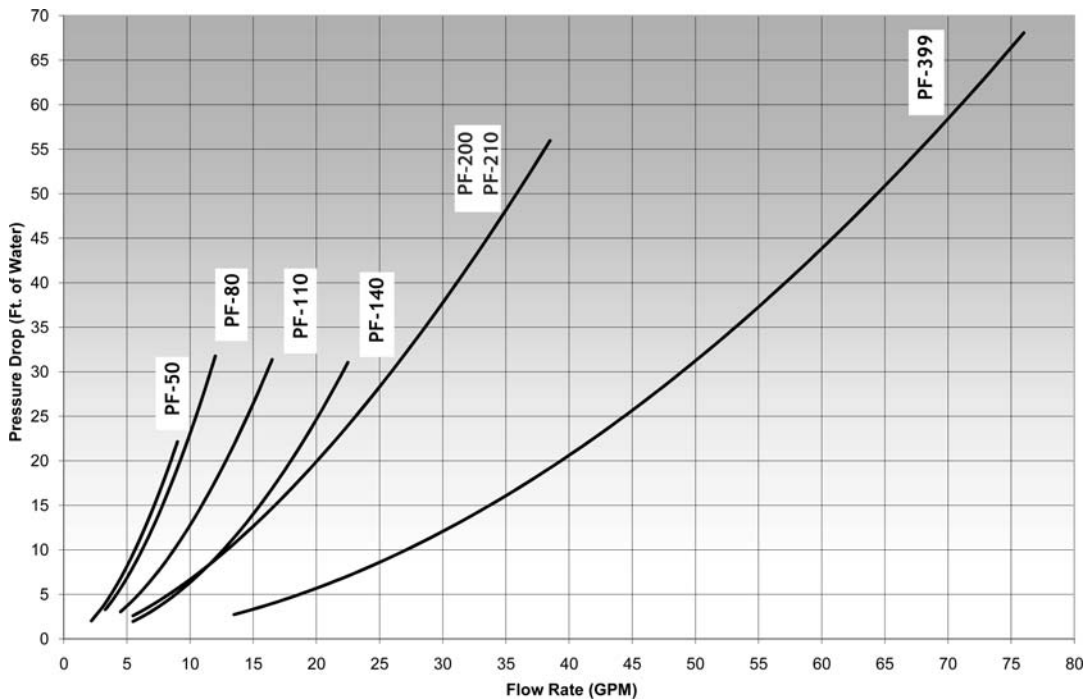

Figure 4.4: PUREFIRE® Circulator Sizing Graph (General Pump – Primary/Secondary)
d. The boiler pressure drop for various flow rates can be determined using Figure 4.4, the *PUREFIRE*[®] Boiler Circulator Sizing Graph.